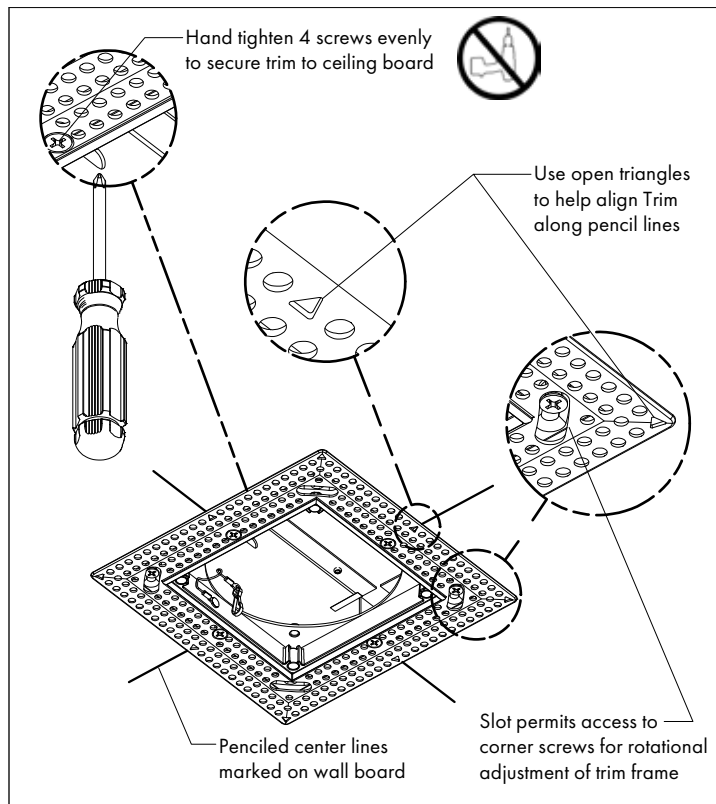

FIG 3.3 Install & Adjust Trim (for Single & Multi-Lamp)
- STEP 2** Install trim to housing by hand tightening 4 screws until trim is secured against ceiling board - **FIG 3.3**. **DO NOT OVERTIGHTEN.** Using power screw driver is not recommended.